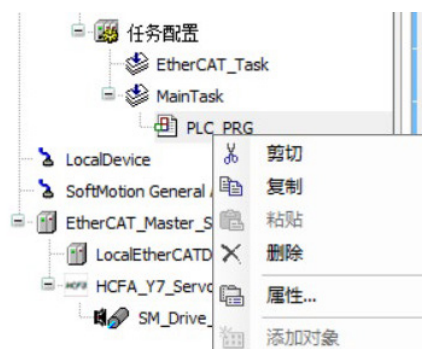

Figure 13-14 Delete POU of the Main Task
8. In the menu bar, right-click [PLC_PRG] in MainTask, and select [Delete], as shown in Figure 13-14.